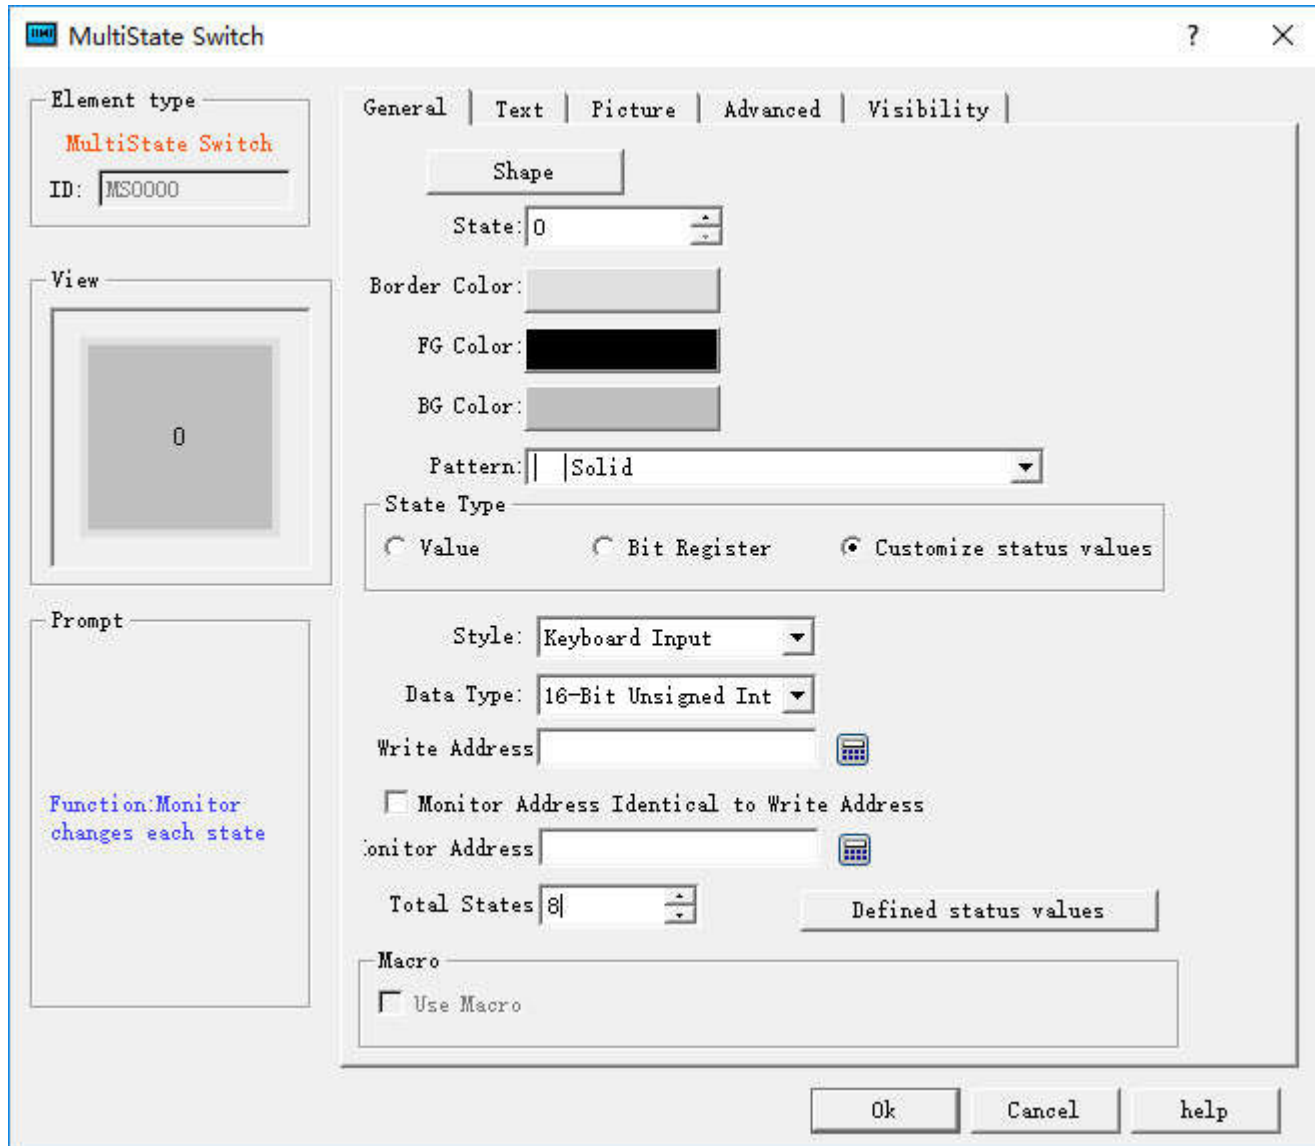

Figure 4-84 Multi-state button select Customize Status Value
- Customize Status Value: When select this option, a "Define Status Value..." button appears, as shown in Figure 4-84: